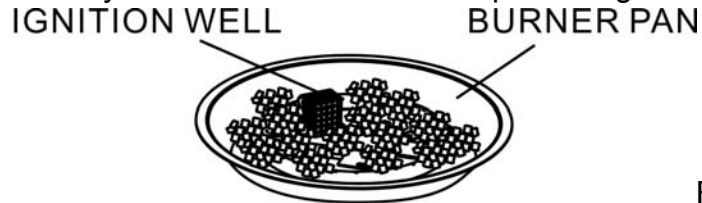

Figure 4
4. Pour the lava rocks or fire ice into the burner pan completely covering the burner. The weight of lava rocks is (3.6kg plus and minus 10%); the weight of the fire ice is (8kg plus and minus 10%). Remove any lava rocks or fire ice on top of the ignition well. See Figure 4.
5. Remove the door panel and place the LP tank onto the bottom frame as shown in Figure 4. Connect the regulator as shown in Figure 4. Turn the black handle clockwise to tighten. Turn the handle counterclockwise to remove. The hose must point down. Check that the valve is turned all the way clockwise to the "OFF" position. Open the tank valve. Apply a solution of soapy water to the tank-regulator connection and to the valve-hose connection to check for leaks. If soap bubbles continue to form, the connection has a leak. If a leak is found, close the tank valve and tighten all connections.